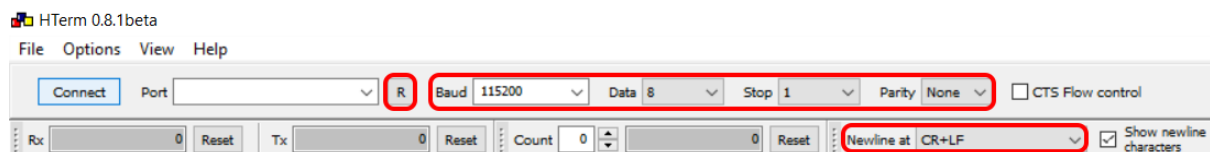

Figure 12. Connecting the USB Port
Connect the TeraRanger Multiflex to your computer and select the corresponding USB port (click "R" button to refresh the port list). Select values for the following fields: (1) Baudrate, (2) Data Bits, (3) Parity, (4) Stop Bits. For easier readings, select the "CR+LF" option for "Newline at" tab. See Figure 12 for visual instructions.